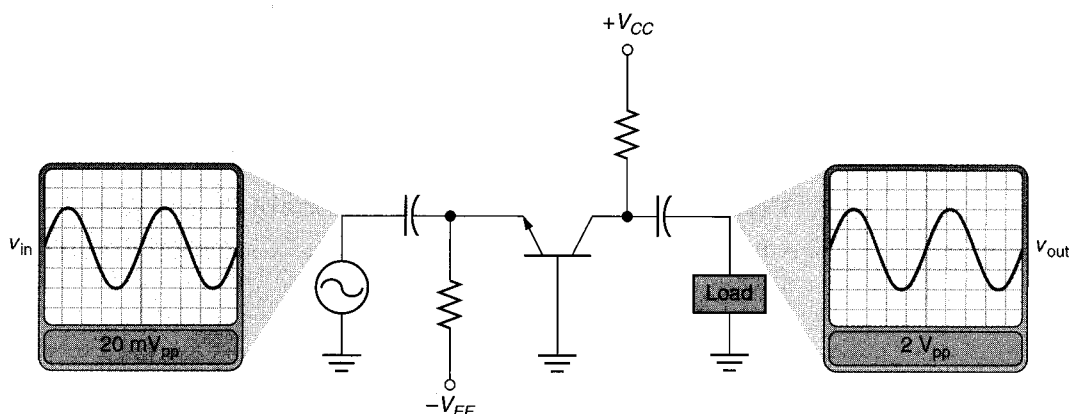

FIGURE 8.15 Common-base (CB) amplifier.
The *common-base (CB) amplifier* is the least often used BJT amplifier configuration. A typical CB amplifier is shown in Figure 8.15. As you can see, the input is applied to the *emitter* of the transistor, and the output is taken from the *collector*. The “bypass capacitor” ( $C_B$ ) in the base circuit provides the ac ground (or common) at that terminal.
The simplest way to determine the configuration of a given BJT amplifier is to use this technique: *Identify the input and output terminals. The third terminal is the common one.* For example, look at the circuit shown in Figure 8.15. The input is applied to the *emitter*, and the output is taken from the *collector*. The third terminal is the *base*. Therefore, the circuit is a *common-base amplifier*. The other two BJT amplifier configurations can be identified in the same fashion.